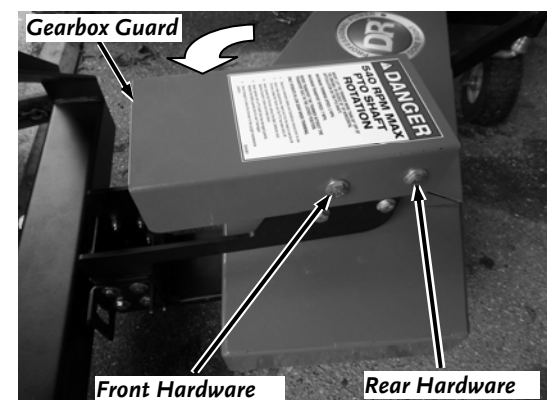

Figure 19
- Lower the Gearbox Guard and install the front Bolt, Washers and Locknut with two 11/16" Wrenches (**Figure 19**).